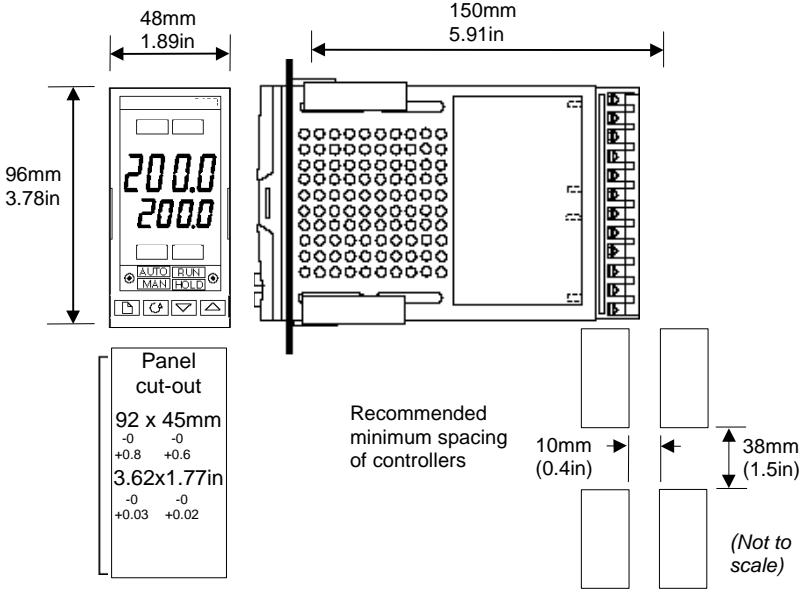

Figure 1-3 Outline dimensions Model CN2408 controller
The electronic assembly of the controller plugs into a rigid plastic sleeve, which in turn fits into the standard DIN size panel cut-out shown in Figures 1-3 and 1-4.
1. Prepare the control panel cut-out to the size shown in Figure 1-3, or 1-4.